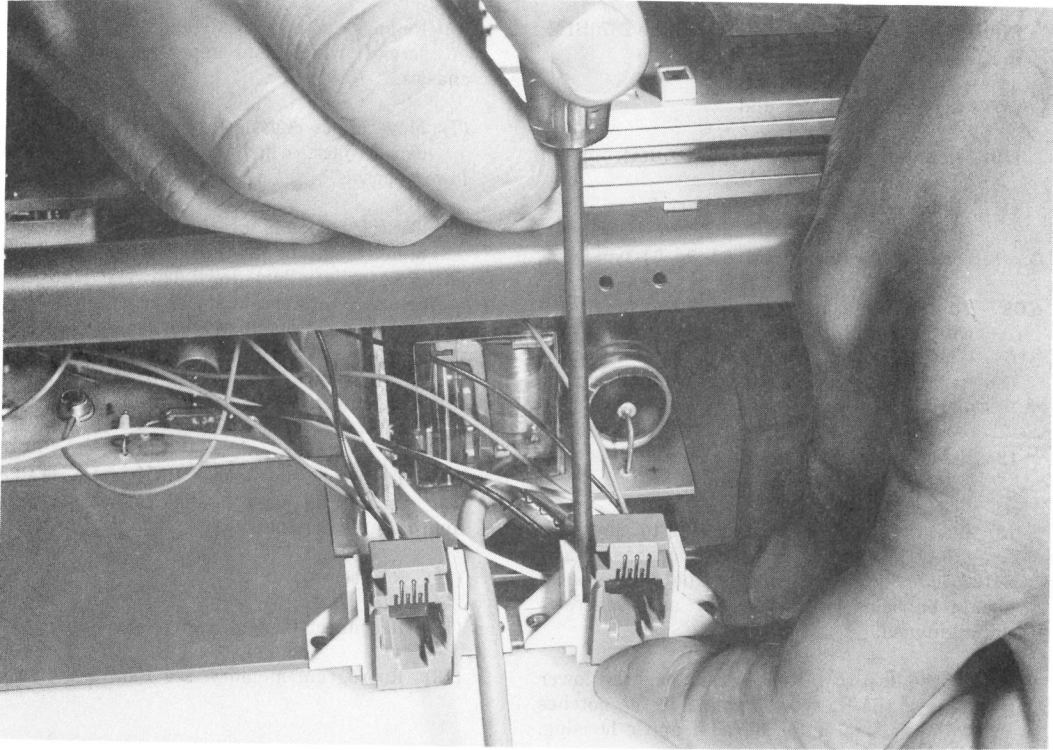

Fig. 7—Removing Mounting Cord Jack or Interface Cord Jack From Dial Base
- (2) Disconnect mounting cord and interface cord from mating jacks in adjunct dial.
- (3) Remove faceplate (paragraph 3.11 or 3.12).
- (4) Loosen captive screw at bottom of the cover around the dial and remove cover.
- (5) Remove housings (paragraph 3.13).
- (6) Remove 4 screws (located adjacent to housing screws) which hold upper chassis to lower chassis.
- (7) Move upper chassis toward front of unit to expose jack, which is mounted to back of lower chassis.
- (8) To release snap of the retainer, carefully slide blade of a thin-bladed screwdriver (KS-6854 or smaller) down between right side of jack and retainer, (as viewed from front of set), while pushing up on bottom of jack, and remove jack (Fig. 7).
- (9) Disconnect leads from appropriate PSB terminals.
- (10) To install new jack, slip it into retainer until snap engages and connect leads to appropriate terminals.
- (11) Reassemble unit.
- (12) Reconnect battery and power unit.
- (13) Reprogram memory, see Part 5.